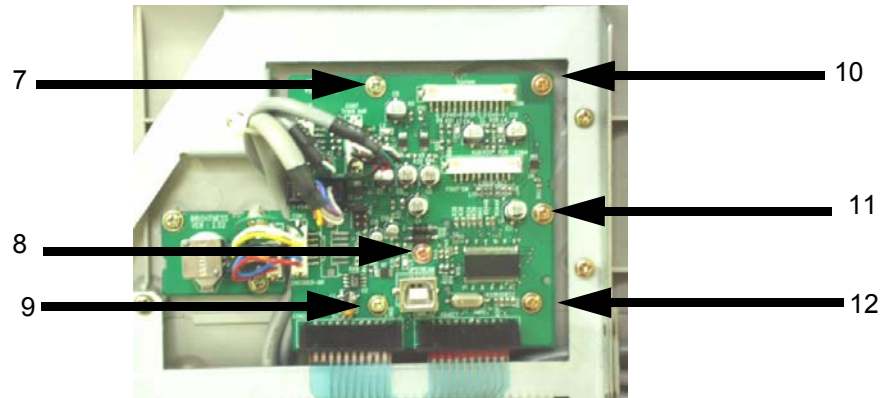

Figure 8-41 Unscrew 6 screws
- 3.) Unscrew six (6) screws (7-12) to remove HUB Board Assy. Refer to section Figure 8-41 on page 28.